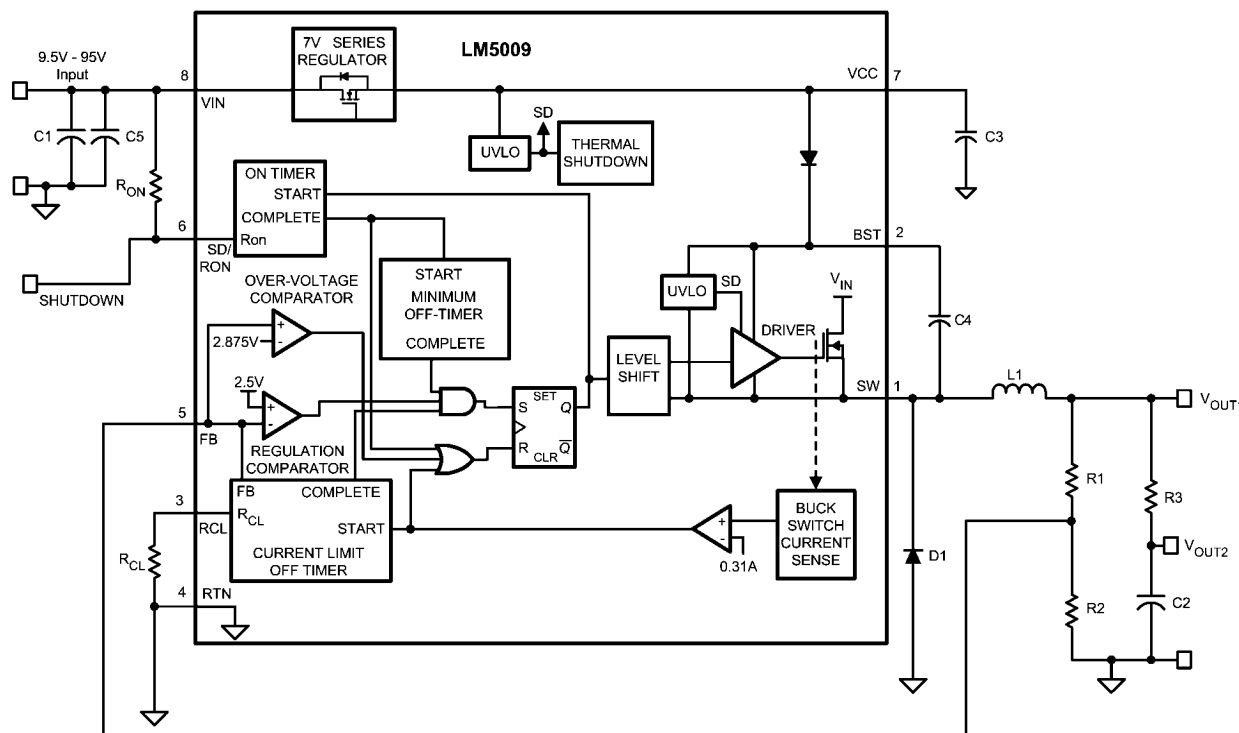

FIGURE 1.
The LM5009 Step Down Switching Regulator features all the functions needed to implement a low cost, efficient, Buck bias power converter. This high voltage regulator contains a 100 V N-Channel Buck Switch, is easy to implement and is provided in the MSOP-8 and the thermally enhanced LLP-8 packages. The regulator is based on a control scheme using an on-time inversely proportional to V_{IN} . The control scheme requires no loop compensation. Current limit is implemented with forced off-time, which is inversely proportional to V_{OUT} . This scheme ensures short circuit protection while providing minimum foldback. The Functional Block Diagram of the LM5009 is shown in Figure 1.
The output voltage (V_{OUT}) is programmed by two external resistors as shown in Figure 1. The regulation point is calculated as follows:
This regulator regulates the output voltage based on ripple voltage at the feedback input, requiring a minimum amount of ESR for the output capacitor C2. A minimum of 25mV of ripple voltage at the feedback pin (FB) is required for the LM5009. In cases where the capacitor ESR is too small, additional series resistance may be required (R3 in Figure 1).
A guide for determining the component values will be illustrated with a design example. Refer to Figure 1. The following steps will configure the LM5009 for:
R1 and R2: From Figure 1, $V_{OUT1} = V_{FB} \times (R1 + R2) / R2$, and since $V_{FB} = 2.5V$, the ratio of R1 to R2 calculates as 3:1. Standard values of 3.01 k Ω (R1) and 1.00 k Ω (R2) are chosen. Other values could be used as long as the 3:1 ratio is maintained. The selected values, however, provide a small amount of output loading (2.5 mA) in the event the main load is disconnected. This allows the circuit to maintain regulation until the main load is reconnected.
a) ESR and R3: A low ESR for $C2$ is generally desirable so as to minimize power losses and heating within the capacitor. However, this regulator requires a minimum amount of ripple voltage at the feedback input for proper loop operation. For the LM5009 the minimum ripple required at pin 5 is 25 mV p-p , requiring a minimum ripple at V_{OUT1} of 100 mV . Since the minimum ripple current (at minimum V_{IN}) is 33 mA p-p , the minimum ESR required at V_{OUT1} is 3Ω . Since quality capacitors for SMPS applications have an ESR considerably less than this, $R3$ is inserted as shown in Figure 1. $R3$'s value, along with $C2$'s ESR, must result in at least 25 mV p-p ripple at pin 5. Generally, $R3$ will be 0.5Ω to 5.0Ω .